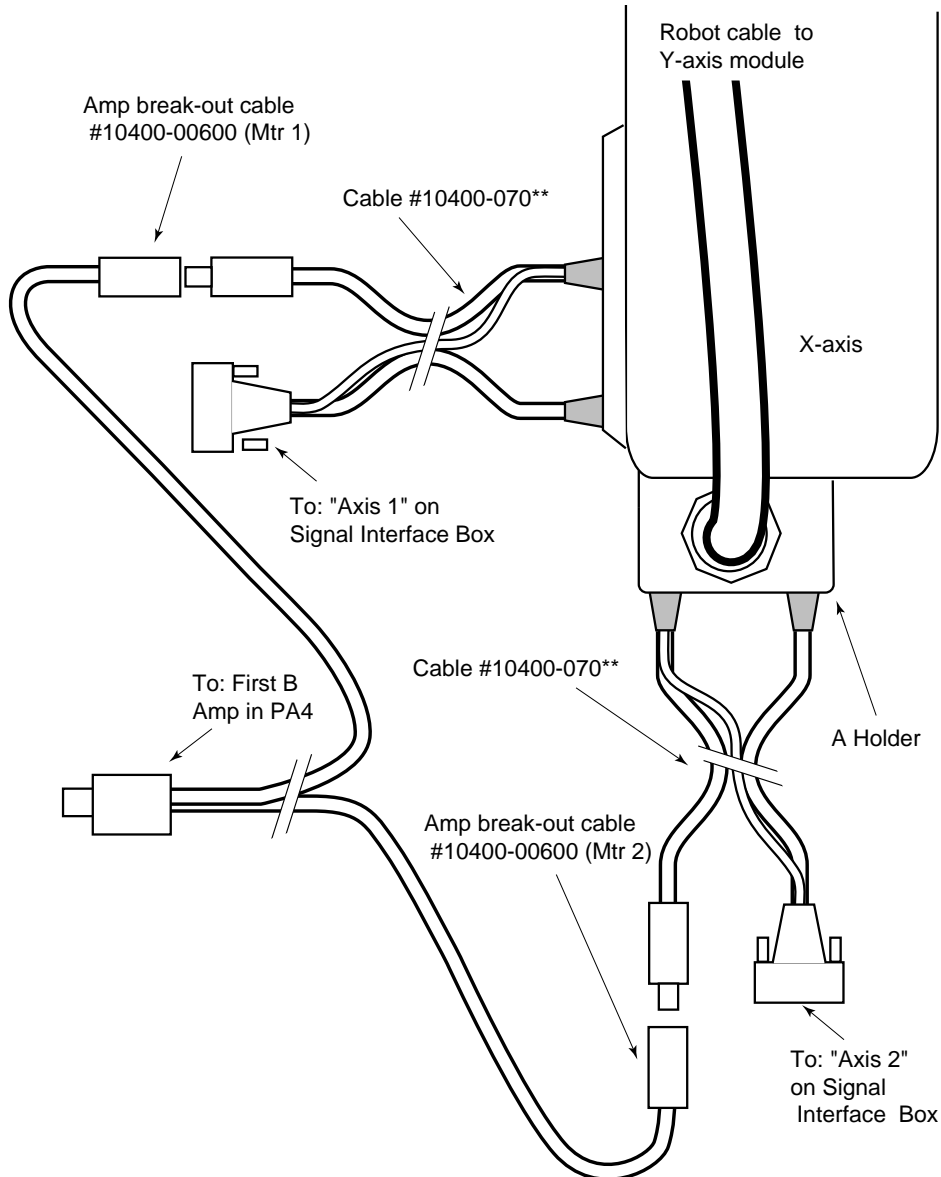

Figure 4-39. Connecting to an Adept MV Controller
- a. Connect the two barrel ends of the cable to the X-axis module as shown in Figure 4-39. These connectors have different pin sizes and cannot be installed incorrectly.
- b. Attach the A holder end of the robot cable to the motor end face of the X-axis module as shown in Figure 4-39 (refer to Section 4.3 for holder mounting).
- d. Connect the two barrel ends of the controller cable to the Z-axis robot cable holder on the X-axis module as shown in Figure 4-39. These connectors have different pin sizes and cannot be installed incorrectly. The other ends connect to the controller connections marked "2-CN6 MOTOR 2" and "2-CN5 SENSOR 2".